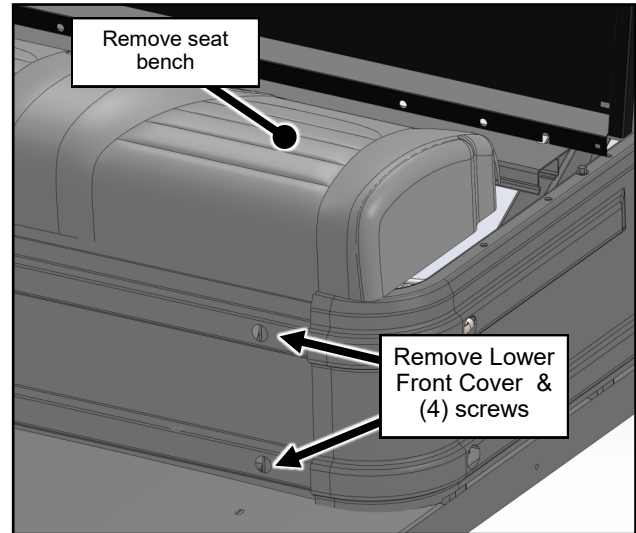

Fig. 1.2 (Remove seat bench and cover)
- 1.2 Remove the seat from the vehicle. Remove the front cover from the seat base held by (4) screws. See Figure 1.2.